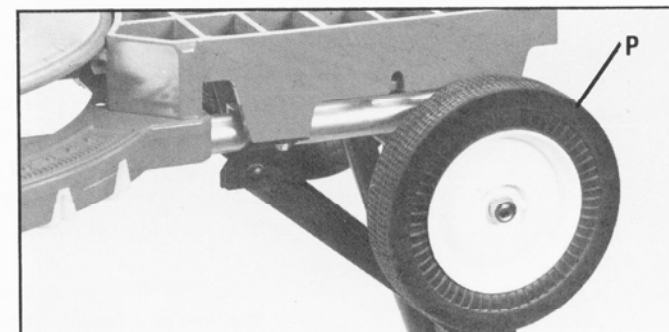

Fig. 10
3. Place wheel (P) Fig. 10, on axle against push nut and insert axle through the two nylon bushings. Assemble wheel and push nut to the other end of axle.